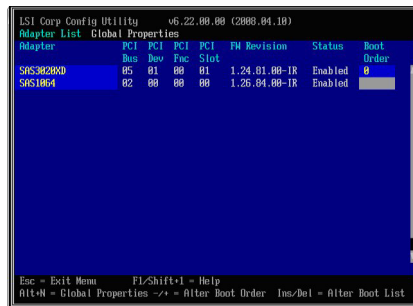

Figure 4. Adapter List screen showing Onboard SAS Controller and SAS Expansion Card
1. When the <<<Press Ctrl-C to start LSI Logic Configuration Utility>>> prompt displays during system boot, press Ctrl+C to enter the LSI Logic Configuration Utility. For blades with an enabled Onboard SAS Controller and the SAS Expansion Card, the Adapter List screen will be similar to Figure 4 on page 41. In Figure 4 on page 41, the SAS Expansion Card is shown as the first entry **SAS3020XD**. The adapter name may vary depending on the particular blade model and SAS Expansion Card version. To determine which entry is the SAS Expansion Card, you can temporarily disable the Onboard SAS Controller by pressing F1 during the boot; this removes the Onboard SAS Controller from